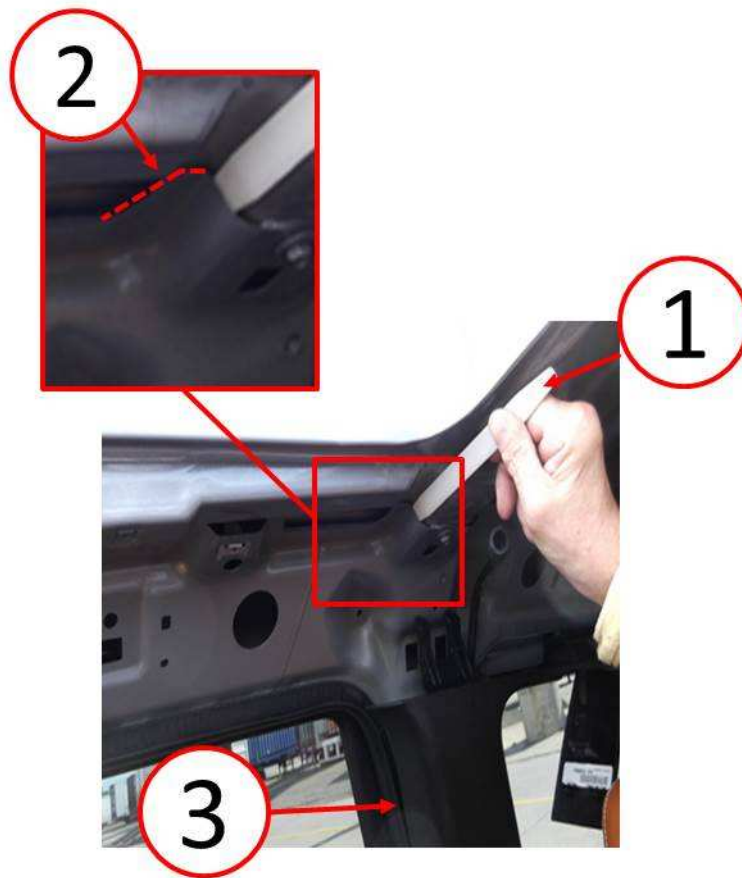

Fig. 3
5. Insert trim stick C-4755 at the location shown in (Fig. 3) . Can the metal be easily moved by moving the trim stick left to right?
6. Clean and prepare the sheet metal flange identified in (Fig. 3) for application of structural adhesive per the adhesive manufacturer's recommendations.
7. Apply Lord Fusor 112B structural adhesive or equivalent, at the sheet metal flange location identified by the dashed line in (Fig. 3) .